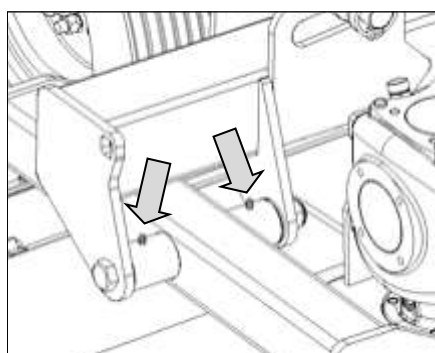

Fig. 48
4. **Side deck pitch pivots:** Lubricate **every 40 hours or weekly**. All three mower decks can pitch fore-and-aft in relation to their outriggers. The left and right deck pivots have greasers fitted. There are two of these on each side of the tube that passes through the outrigger where the deck connects to it (Fig. 48). Each greaser should be given **2 pumps** of multi-purpose grease.